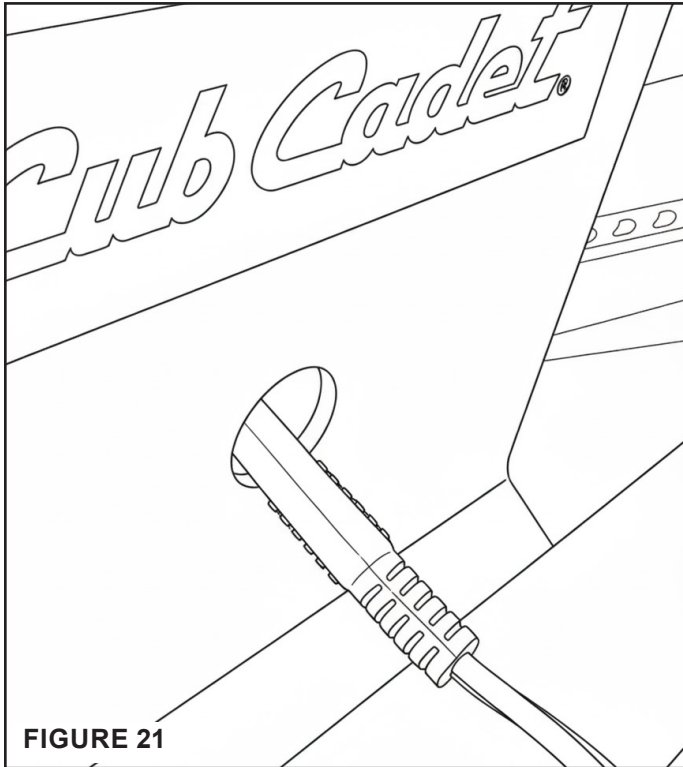

FIGURE 21
STEP 21: (SEE FIGURE 21)
- Install the harness from the motor through the hole on the bracket control assembly (4).